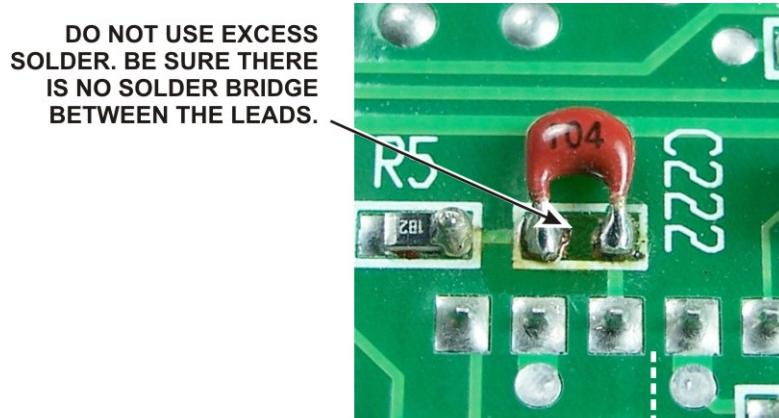

Figure 2. Replacement C222 Installed Using a Leaded Capacitor.
- Install the new capacitor. If you are installing a leaded part, it's best to use one with 0.1" lead spacing. Keep the leads short and be sure you don't create a solder bridge between the solder pads (See Figure 2.)